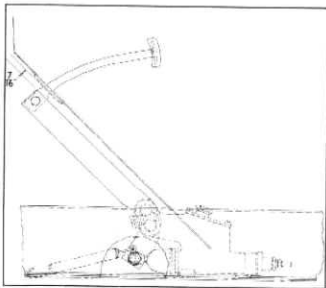

Fig. 10—Toe Board Clearance
1. Brake pedal should be adjusted to give $\frac{7}{16}$ " clearance between top of brake pedal arm and the underside of the brake pedal toe pan depression (fig. 10).